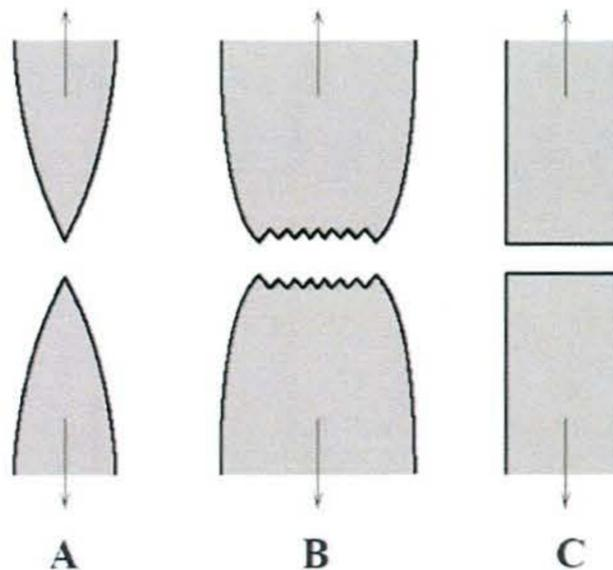

Figure Q1c) Macroscopic fracture profiles
- c) Discuss the macroscopic fracture profiles A, B and C shown in Figure Q1c) and cite any two specific materials that follow those fracture profiles.